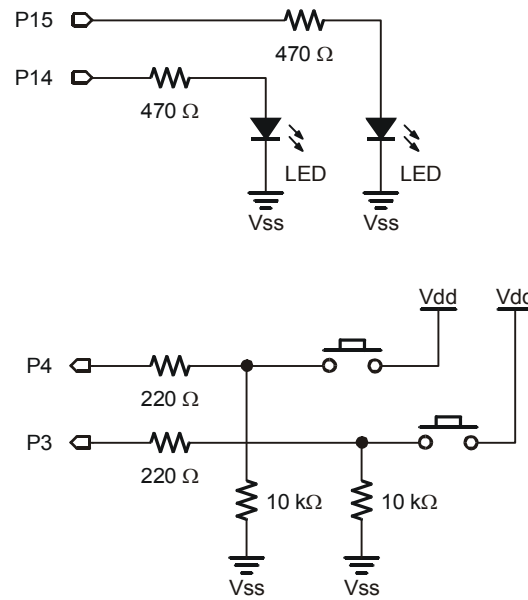
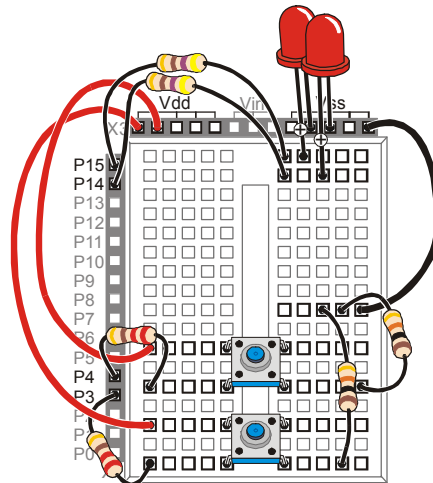

Figure 3-12
Figure 3-13
Figure 3-12 shows a second LED and pushbutton circuit added to the circuit you tested in the previous activity.
- ✓ Build the circuit shown in Figure 3-12. If you need help building the circuit shown in the schematic, use the wiring diagram in Figure 3-13 as a guide.
Connecting wires with dots: There are three places where wires intersect in Figure 3-12, but only two dots. Wires only connect if there is a dot at the intersection. The wire that connects the P4 pushbutton to the 10 k Ω resistor does not connect to the P3 pushbutton circuit because there is no dot.